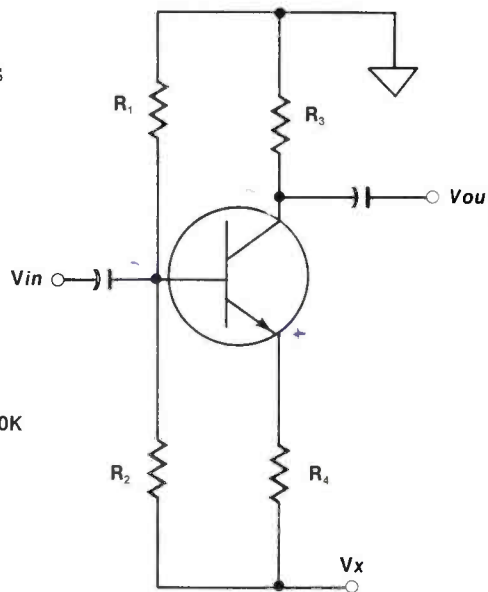

Figure 2
- You are going to measure the base voltage of the Class A amplifier circuit in Figure 2. Your measurement is with respect to common. You should measure a